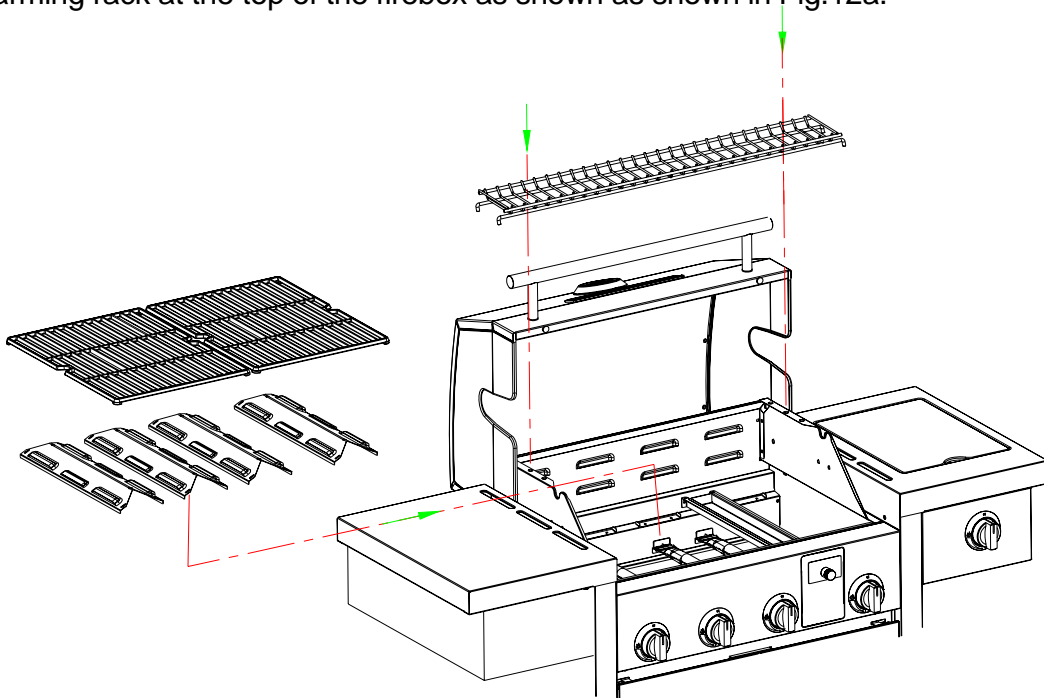

Fig.12a
2. Place cooking grates onto grate rests as shown in Fig.12a.
3. Insert warming rack at the top of the firebox as shown as shown in Fig.12a.